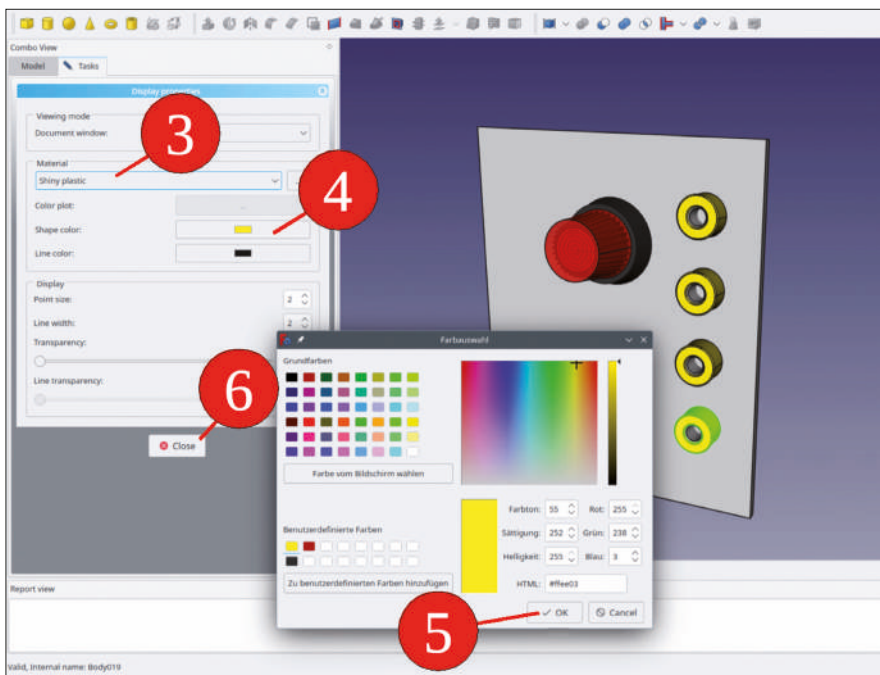

Figure 9-21
12. In the task window, select 'Shiny Plastic' for the material, and set the color to yellow (Figure 9-21). Close the task window.